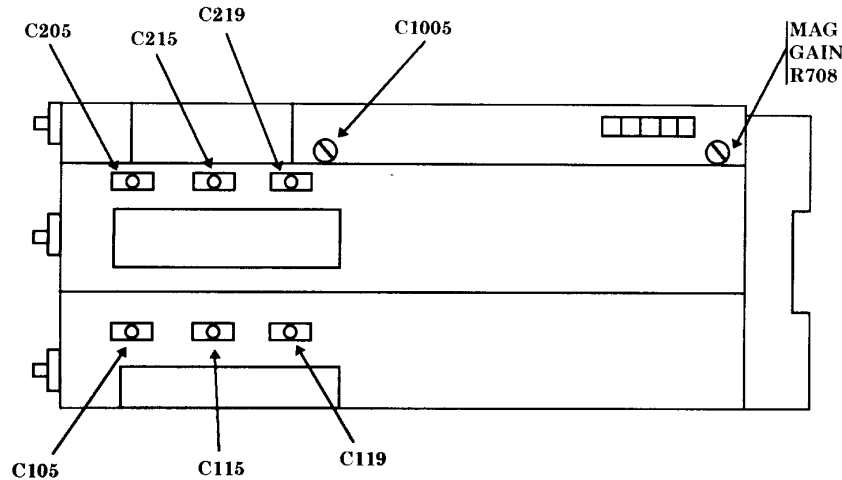

Figure 3. Test instrument - bottom view.
- (1) Adjust C105 (C205 for **CH 2**) (fig. 3) for optimum square wave on TI (R).
- (2) Adjust C115 (C215 for **CH 2**) (fig. 3) for optimum flat top and C119 (C219 for **CH 2**) (fig. 3) for square front corner (R).
(1) Rotate oscilloscope calibrator **EDIT FIELD** knob for an **err** display of **0.0%**. Adjust **MAG GAIN R708** (fig. 3) for TI display of 1 time marker per division over center 8 divisions (R).
(2) Rotate oscilloscope calibrator **EDIT FIELD** knob for an **err** display of **0.0%**. Adjust **C1005** (fig. 3) for TI display of 1 time marker per division over center 8 divisions (R).